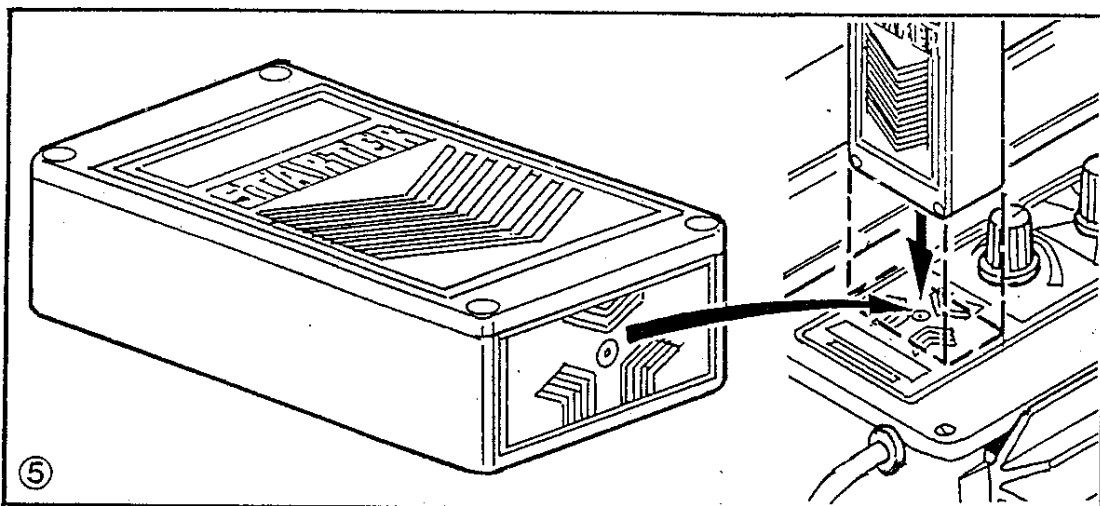

Fig 7 - The Starter Position
2. Place the Starter in position on the ORBITER Control Unit as shown in Fig 7.